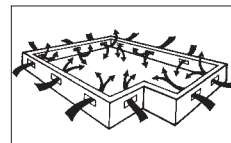

Figure 1
- Crawl spaces must be a minimum of 18" (46 cm) from the ground to underside of joists. A ground cover of 6-20 mil black polyethylene film is essential as a vapor barrier with joints lapped six inches and sealed with moisture resistant tape. The crawl space should have perimeter venting equal to a minimum of 1.5% of the crawl space square footage. These vents should be properly located to foster cross ventilation (Figure 1). Where necessary, local regulations prevail.